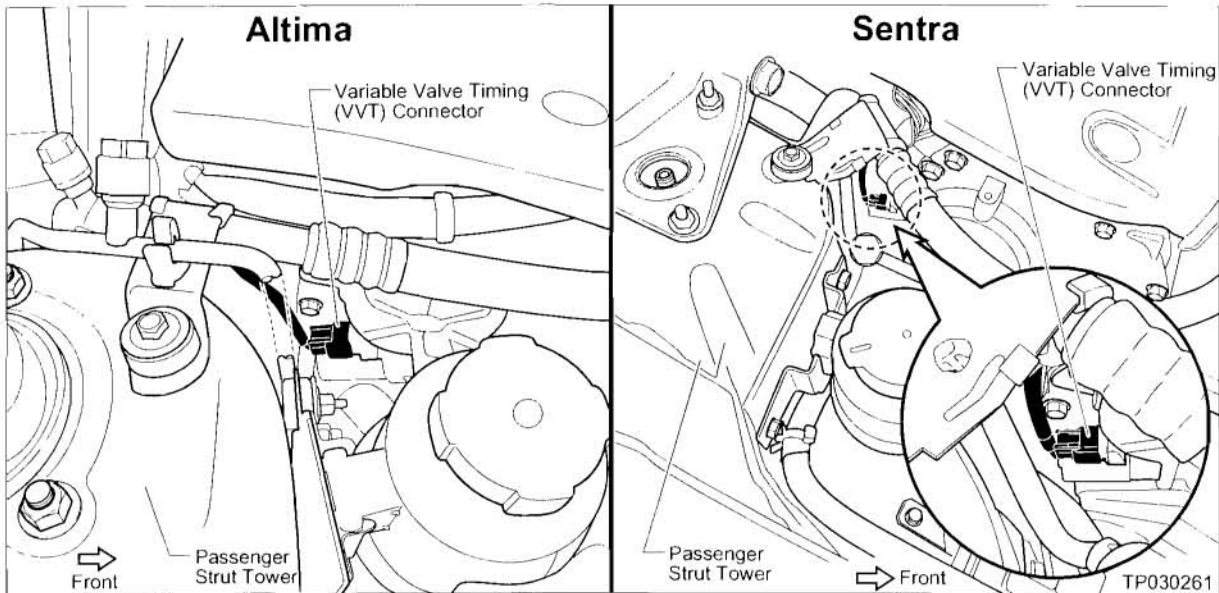

Figure F1
- Make sure the VVT Wire Harness Connector is disconnected before removing the engine (see Figure F1).